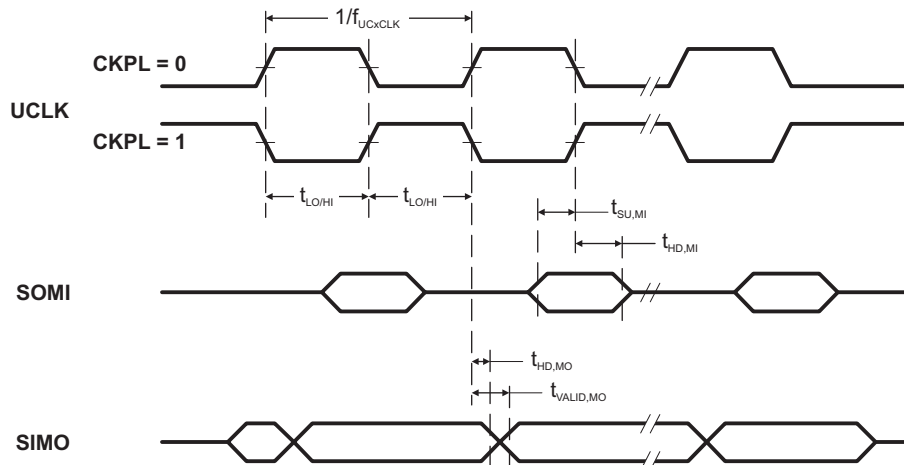
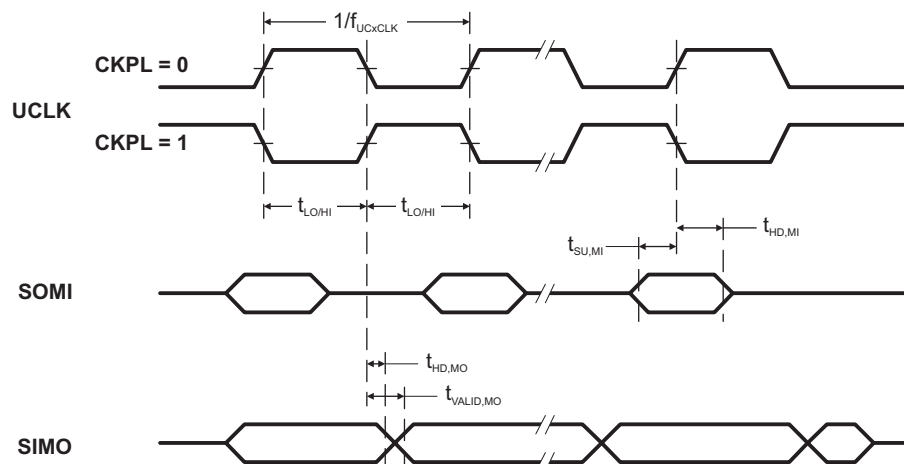

Figure 15. SPI Master Mode, CKPH = 0
Figure 16. SPI Master Mode, CKPH = 1
(see Note ⁽¹⁾, Figure 15 and Figure 16)
- (1) $f_{UCxCLK} = 1/2t_{LO/HI}$ with $t_{LO/HI} \geq \max(t_{VALID,MO}(USCI) + t_{SU,SI}(Slave), t_{SU,MI}(USCI) + t_{VALID,SO}(Slave))$. For the slave's parameters $t_{SU,SI}(Slave)$ and $t_{VALID,SO}(Slave)$ see the SPI parameters of the attached slave.
- (2) Specifies the time to drive the next valid data to the SIMO output after the output changing UCLK clock edge. See the timing diagrams in Figure 15 and Figure 16.
- (3) Specifies how long data on the SIMO output is valid after the output changing UCLK clock edge. Negative values indicate that the data on the SIMO output can become invalid before the output changing clock edge observed on UCLK. See the timing diagrams in Figure 15 and Figure 16.
- (2) Specifies the time to drive the next valid data to the SOMI output after the output changing UCLK clock edge. See the timing diagrams in Figure 15 and Figure 16.
- (3) Specifies how long data on the SOMI output is valid after the output changing UCLK clock edge. See the timing diagrams in Figure 15 and Figure 16.